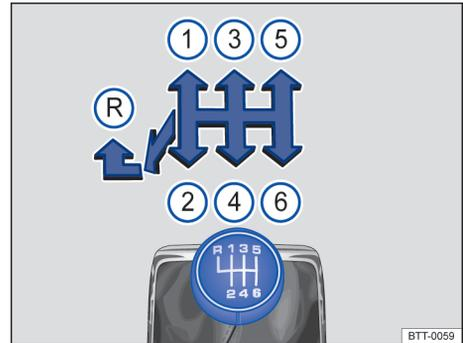

Fig. 100 Gearshift pattern of a 6-speed manual transmission.
The positions of the individual gears are shown on the gearshift lever → fig. 100.
- Move the shift lever to the left and then push forward into the reverse gear position → fig. 100 **Ⓡ**.